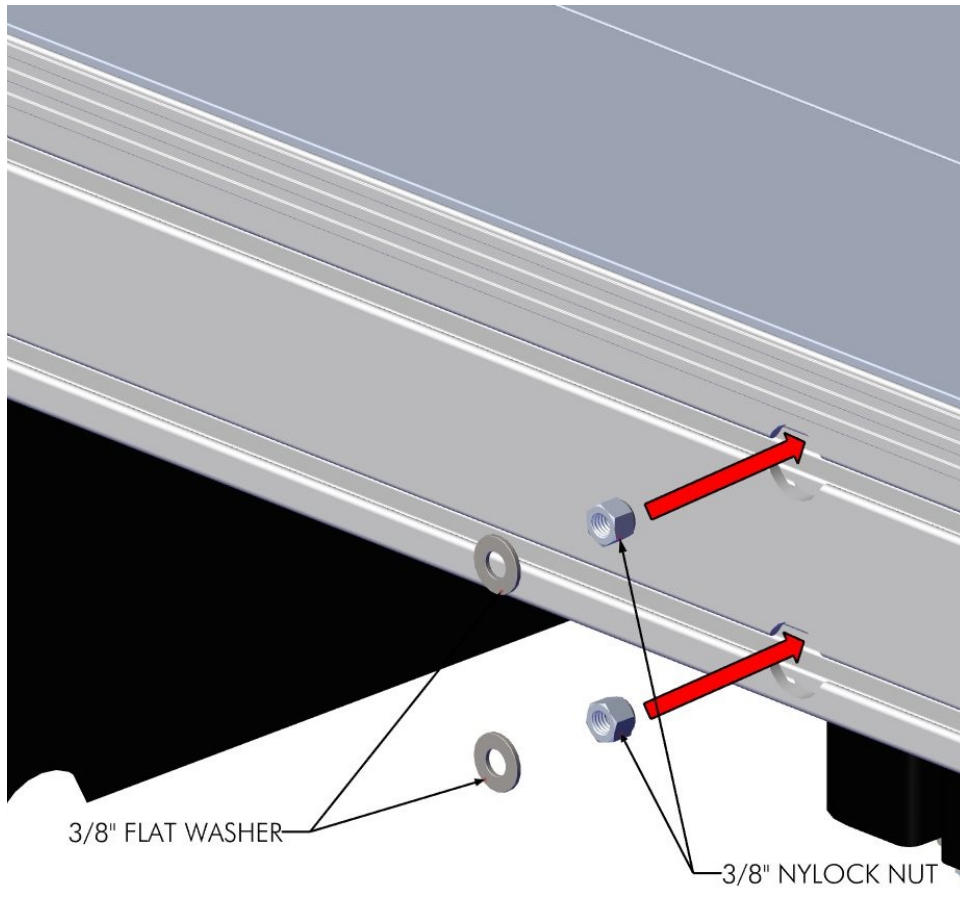

FIG. 1
INSERT (2) 3/8" NYLOCK NUTS AND (2) FLAT WASHERS INTO EACH OF THE NUT TRACKS THROUGH THE HOLES PROVIDED AND ADJUST TO THE DESIRED POSITION (FIGURE 1).